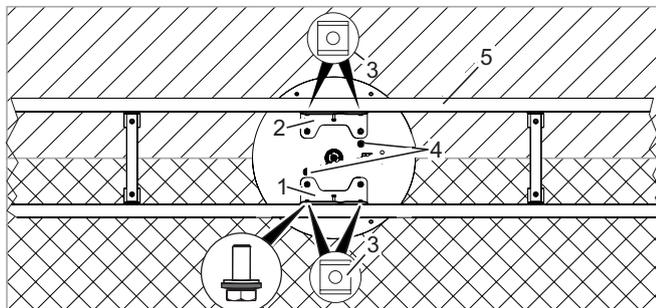

Fig. 71 Aligning the sliding nuts
7. Align sliding nuts (Fig. 71/3) with angle bracket (Fig. 71/1 + 2) as shown in Fig. 71.
8. Tighten the mounting screws hand-tight over the sliding nuts (Fig. 71/3) (screw pack 34053301150)..
13. Tighten the mounting screws of the operator hand-tight in the sliding nuts (Fig. 71/3).